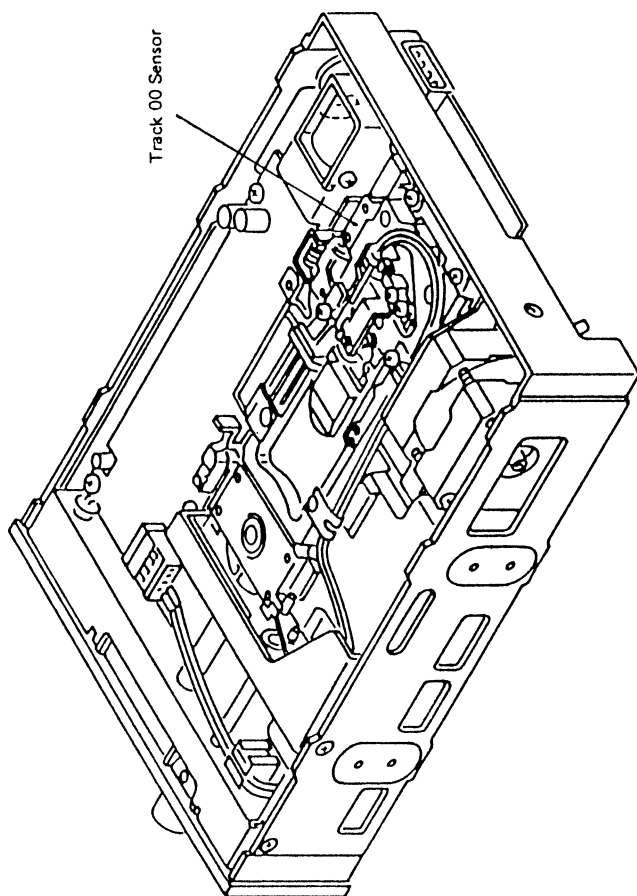

Figure 5.11 Track 00 sensor location
- Loosen the fixing screw of the track 00 sensor and adjust its position to satisfy the requirements described in the checking procedure (see Figure 5.11).